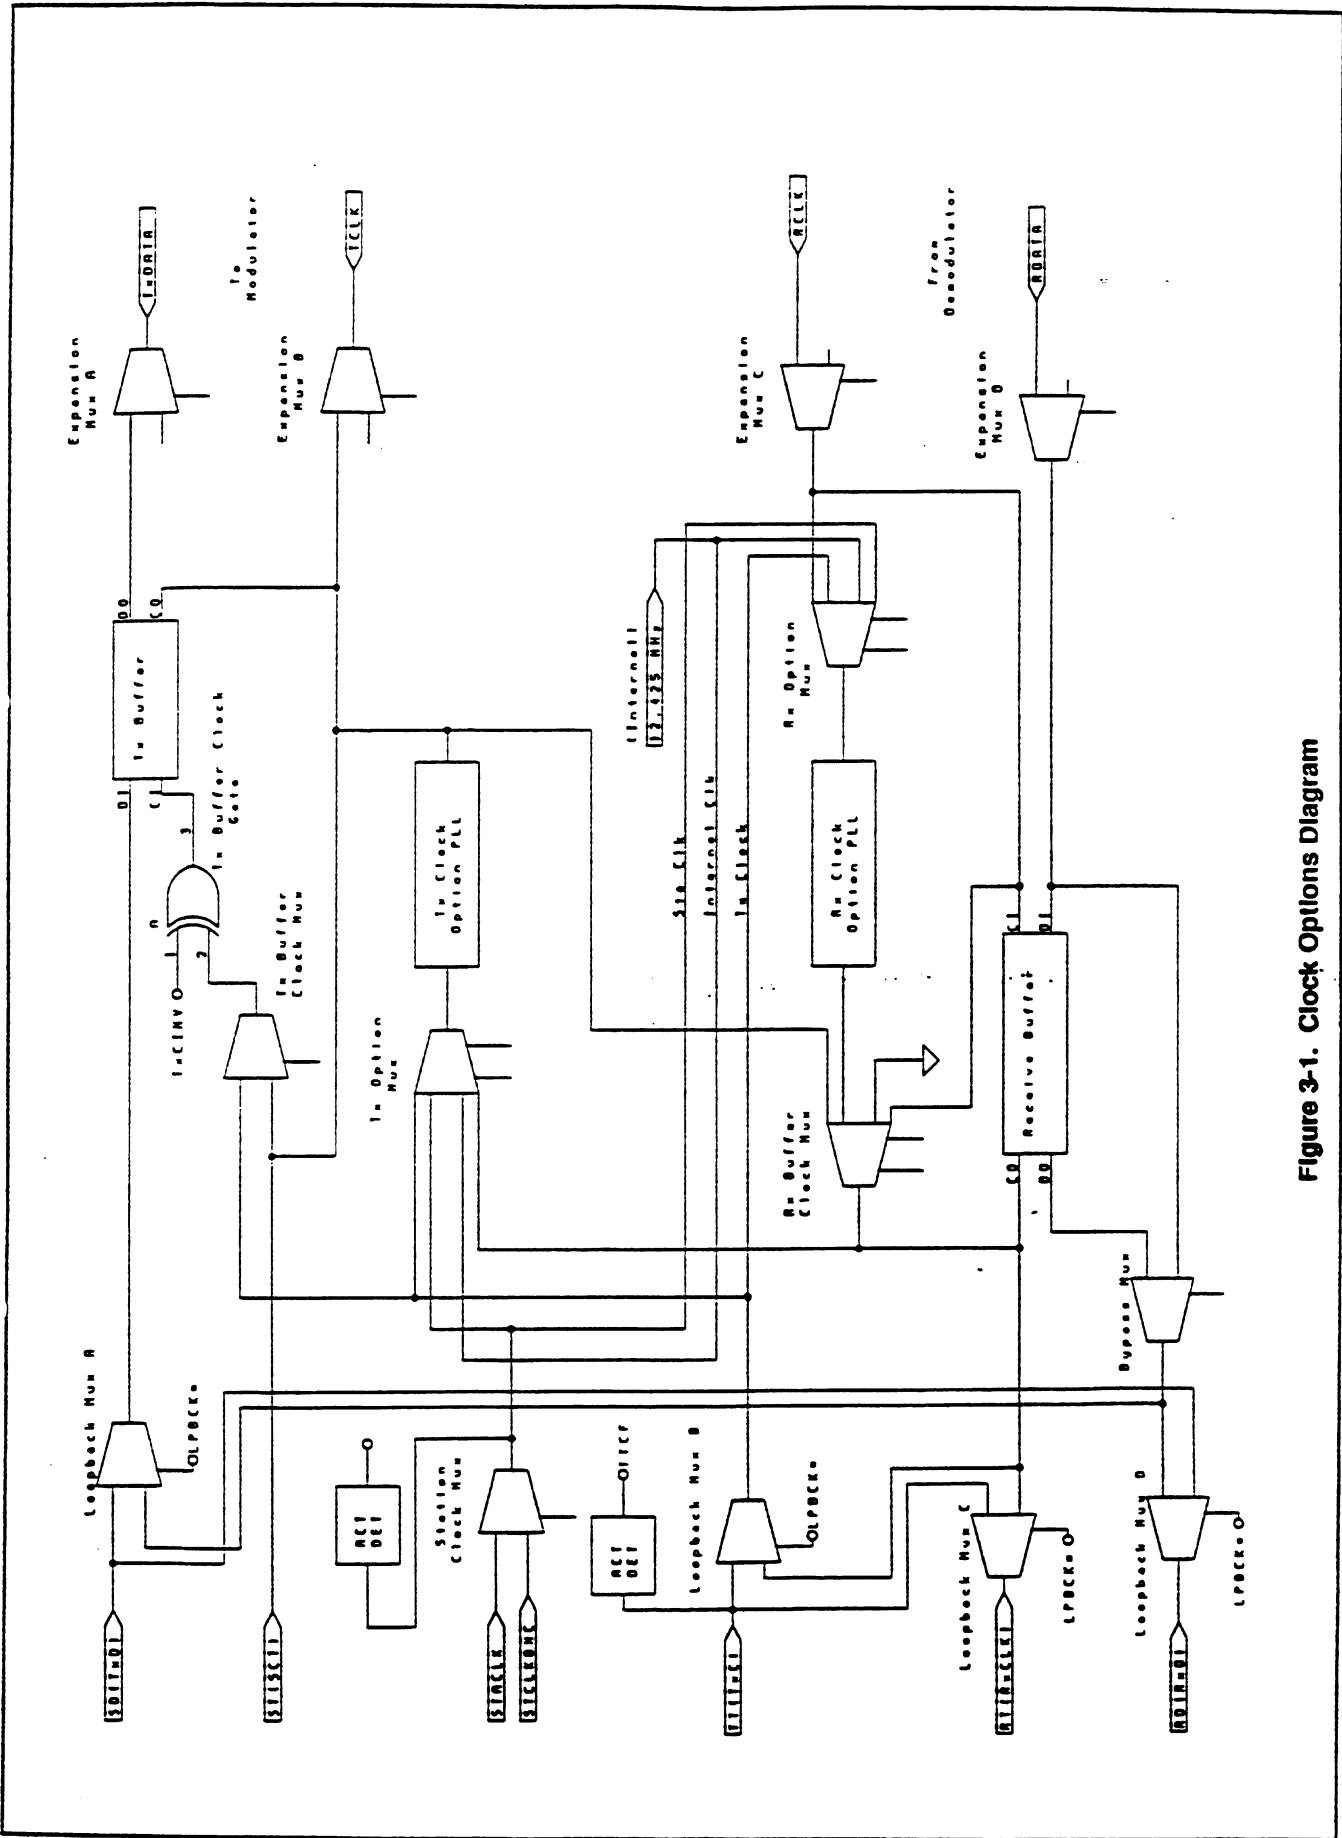

Figure 3-1. Clock Options Diagram
The SM2800 provides a full set of clock options typically available only on higher priced units. The use of these options can be complicated, but provide for full flexibility in the application of the modem. A complete understanding of the implementation of these options is necessary to be able to choose the proper option for the application. Figure 3-1 presents the block diagram of the clock options.
Referring to Figure 3-1, STACLK is the station clock input to the M&C board from the RS422 input and STCLKBNC is the station clock from the BNC input. These two inputs are multiplexed by the station clock mux to select the connector source. The selection begins with the user programmed choice. The choice is monitored for activity, and if the selected input fails, the modem automatically searches the other input. If activity is found, the modem resumes operation with the other input selected. Should the selected input become valid, the modem then resumes operation on the selected input. In the figure, the selected source is then used as the station clock source for additional clock option multiplexing. In the event that continued failure is sensed from the station clock inputs, the modem will revert to using the internal station clock until one or the other station clock inputs becomes valid.
Figure 3-1 also indicates the action of loopback. In the loopback mode, the transmit data (SD) is routed to receive data (RD). The output of the bypass multiplexer is routed to the transmit buffer data input (DI) through loopback mux A. Transmit timing (TT) is routed to receive timing (RT) through loopback mux C. If TT is the selected transmit reference, loopback mux B replaces it with the receive buffer output clock. Thus, data and clock from the DTE is looped back to the DTE, and the modem portion provides a remote loopback over the satellite using the receive data and clock as the transmit data and clock.